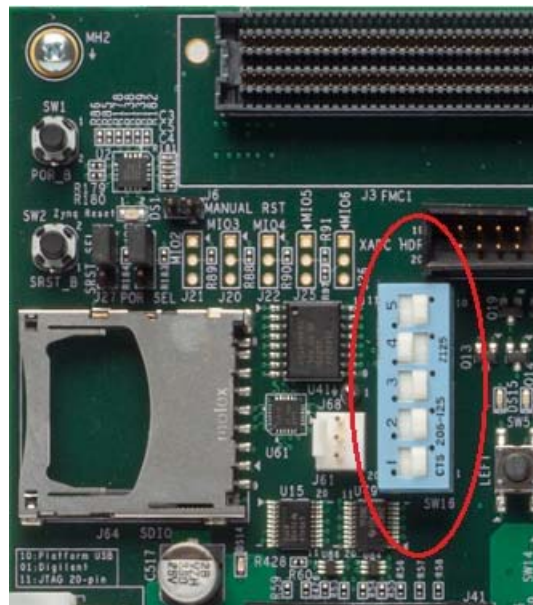

Figure 6-7: Jumper Settings for Booting Linux from QSPI Flash
1. After you program the QSPI Flash, set the SW16 switch on your board as shown in Figure 6-7.